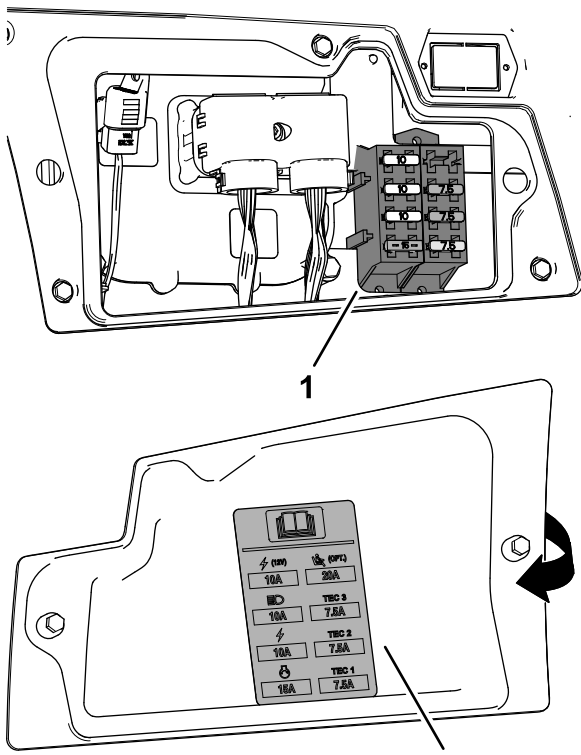

Figure 97
- Replace the open fuse (Figure 97) with the same fuse type and amperage rating.